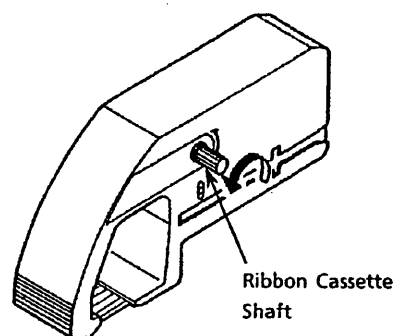

Figure 6.1.13 Ribbon Cassette
- 4) Rotate the shaft on the ribbon cassette counterclockwise to take up any slack in the ribbon (Figure 6.1.13).
- 8) Turn the ribbon cassette knob counterclockwise to tighten the ribbon (Figure 6.1.13).